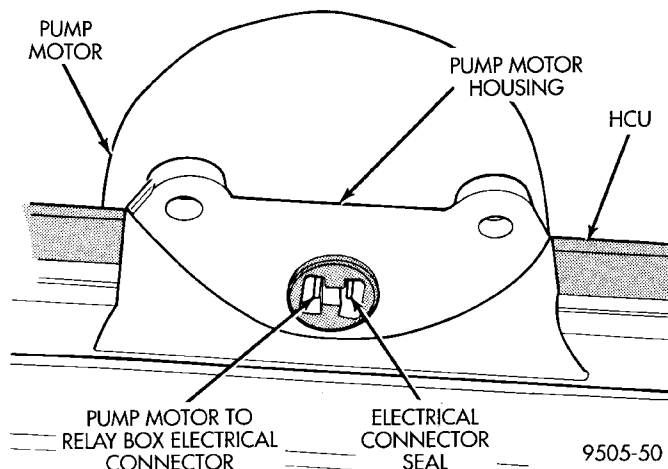

Fig. 26 Pump Motor To Relay Box Electrical Connection Seal
(1) Be sure electrical connector seal (Fig. 26) is installed in pump motor housing before installing relay box. If electrical connector seal is cracked, brittle or in any way damaged it must be replaced before installing relay box.